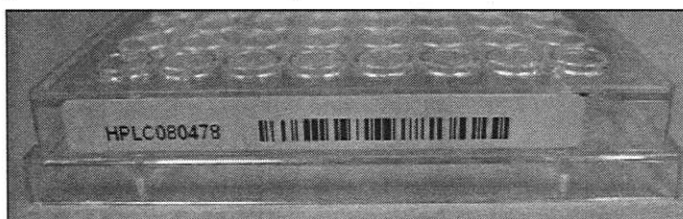

Figure 3-10: Microplate with Barcode Label
- The barcode label must be positioned so that the barcode itself is centered on the microplate side wall. See Figure 3-10 for correct label placement.